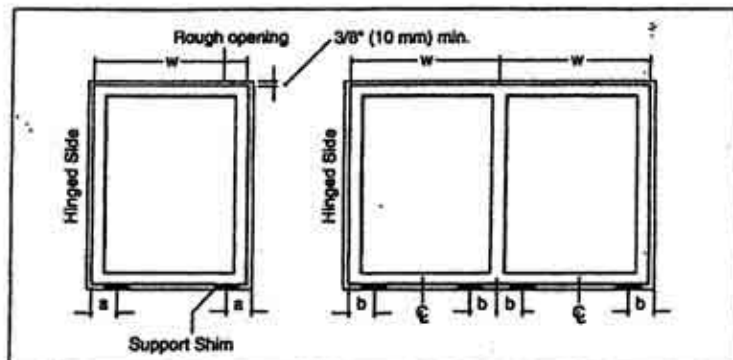

Figure 1-2. Where to put the support shims
- 2.4 Shim sill of window on the corners and on both sides of any mullions with 4" x 1 1/2" shims (See fig. 1-2). Adjust the height of the shims to obtain a level sill, ensuring you have 3/8" gap at the head (inter-storey deflection not to exceed  $\pm 3/8"$ ).